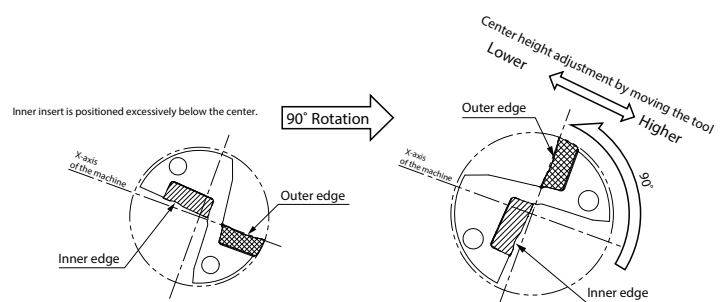

Fig. 10
- Install the drill rotating 90° as shown in Fig. 10 (outer insert is positioned on the upper side) and adjust the center height by moving tool in the X-axis direction. (However, this will make it impossible to adjust the cutting diameter.)